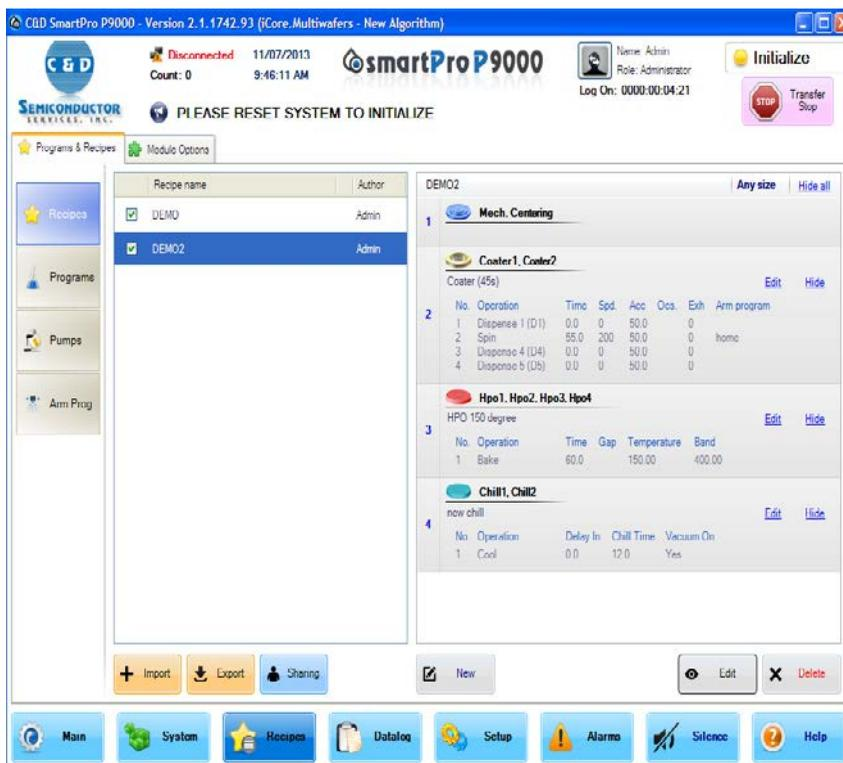

FIGURE 3-30: Deleting a recipe
2. From the side menu, click Recipes. The Recipes page opens. See Figure 3-30.